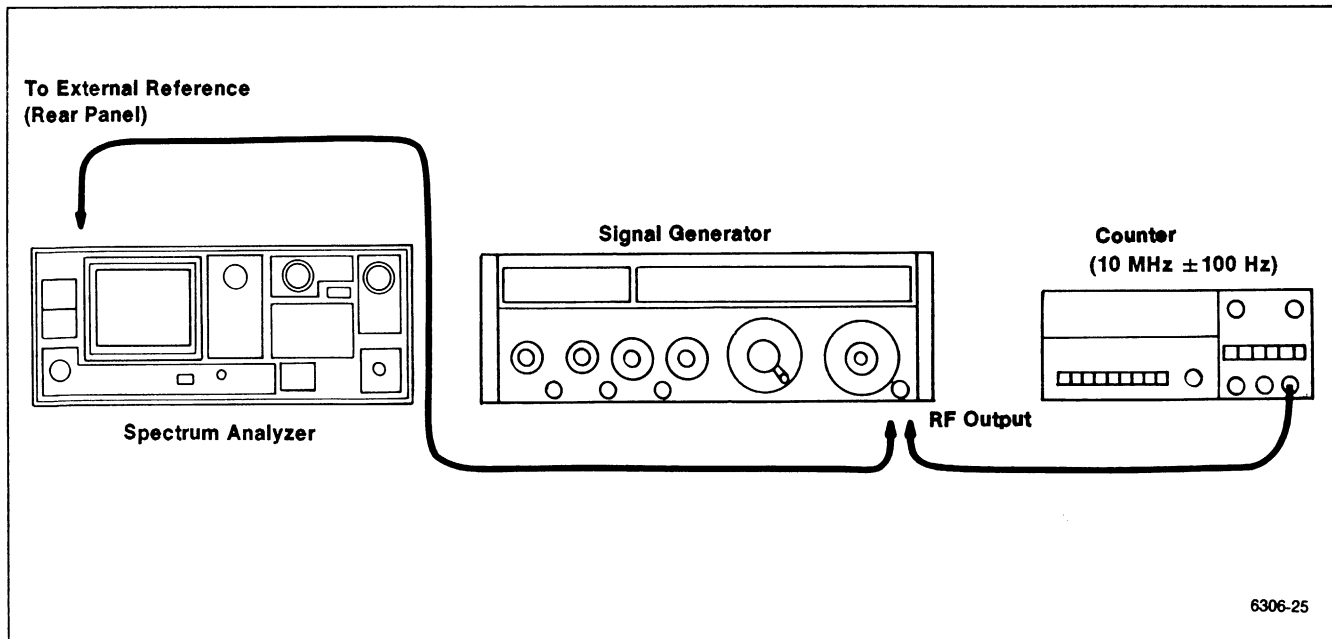

Figure 4-21. Test equipment setup for checking Option 05 external reference input power.
a. Equipment setup is shown in Figure 4-21. Connect the output of the signal generator to a frequency counter and set the generator frequency to 10 MHz, ±50 Hz.